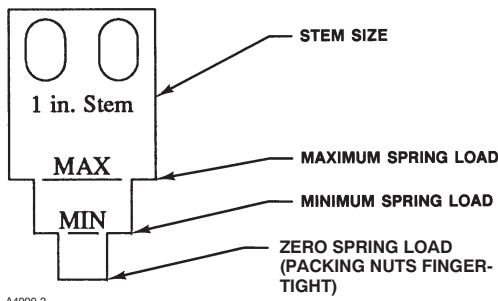

Figure 3. Typical Load Scale
8. The load scale (figure 3) is used to indicate compression on the Belleville springs. Position the load scale by slightly loosening the mounting screws. Align the bottom edge of the load scale with the indicator disk and retighten the screws. Figure 4